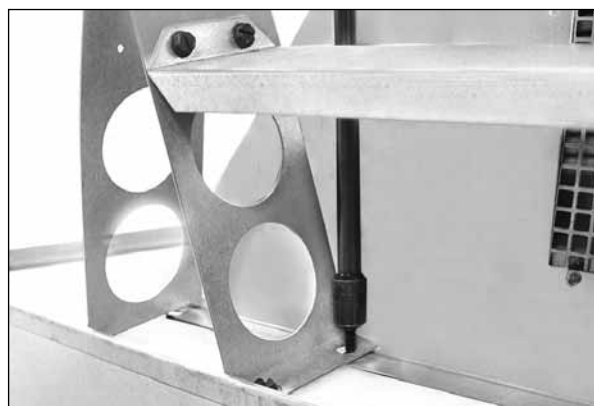

Figure A-14
- 7.4. See **Figure A-14, below**. Attach fourteen (14) of the provided screws to secure the outer transition.